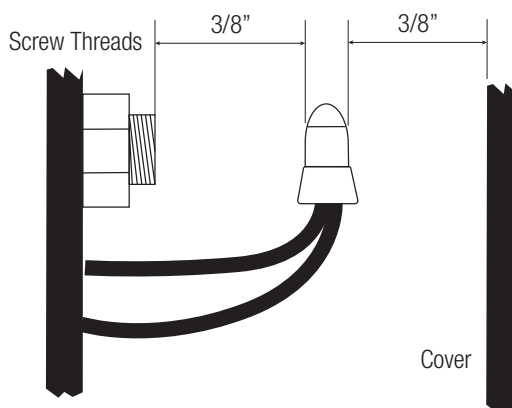

Figure 4-17
- Connections made at the slip ring require adequate clearance. After making all connections, wire leads should be bent to clear both the brush post screw thread and the inside of the slip ring cover. **See Figure 4-17.**